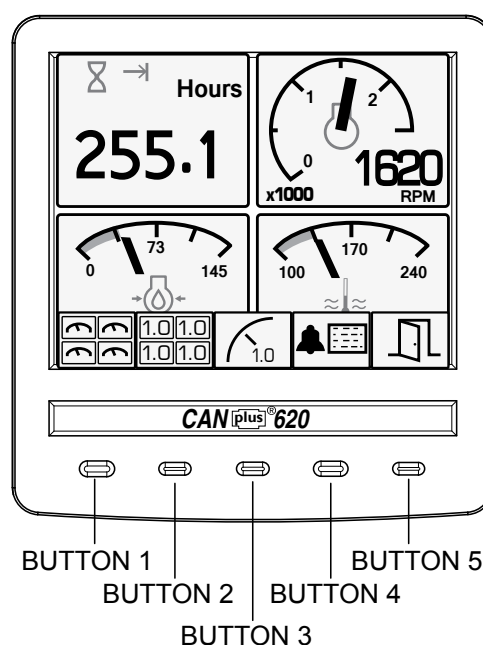

Figure 13. Button Functions
3. With the button bar displayed, press the corresponding button for the desired function (Figure 13). Successive presses of the button will cycle through the pages.